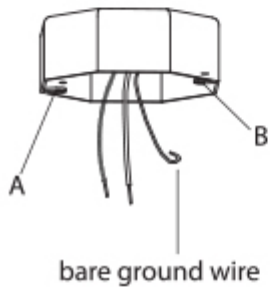

Figure 4
5. Next, affix your electrical box's (bare) ground wire to a metal component to effectively ground the unit. For metal electrical boxes, screw on the (bare) ground wire directly to the electrical box. For plastic electrical boxes, after attaching the Mounting Bracket to the ceiling (steps 6-7) screw the ground wire to the canopy's mounting bracket with the provided ground wire screws. (Figure 4)